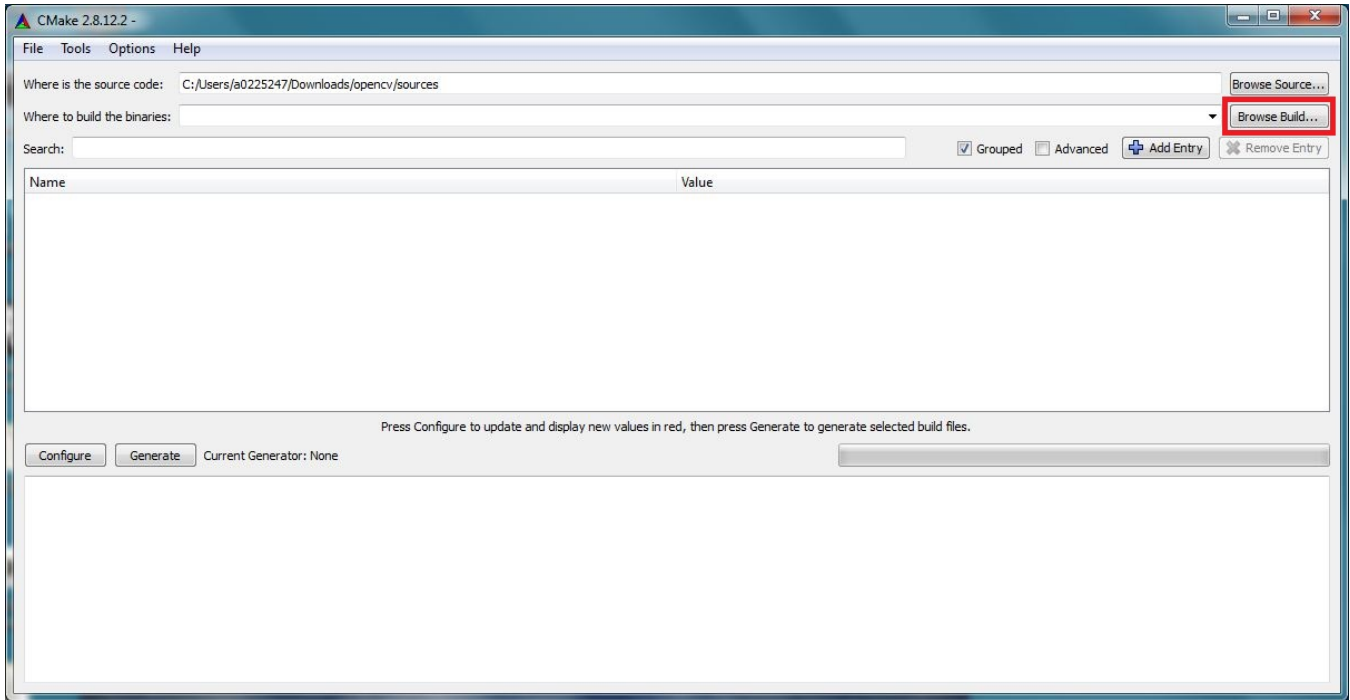

Figure 4-23. Cmake GUI Build Selection
- Click the **Browse Build...** button and select a path for the built libraries to be installed, shown in Figure 4-23.